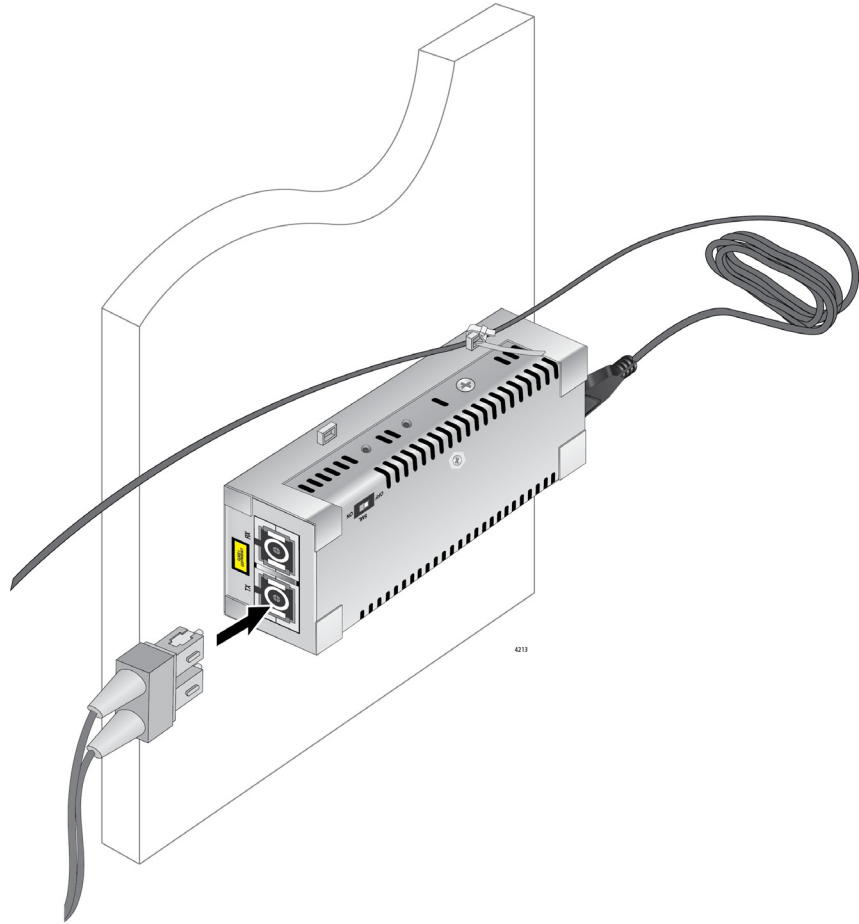

Figure 26. Connecting Cable to Fiber Optic Port
5. Remove the dust cover from the fiber-optic connector(s) and connect the cable to the fiber-optic port as shown in Figure 26 on page 49.